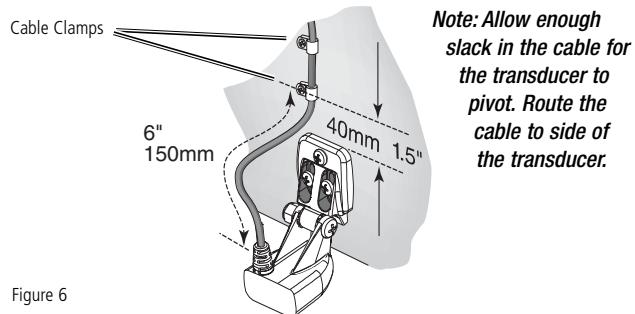

Figure 6
3. Secure the cable with clamps as shown. (Figure 6).